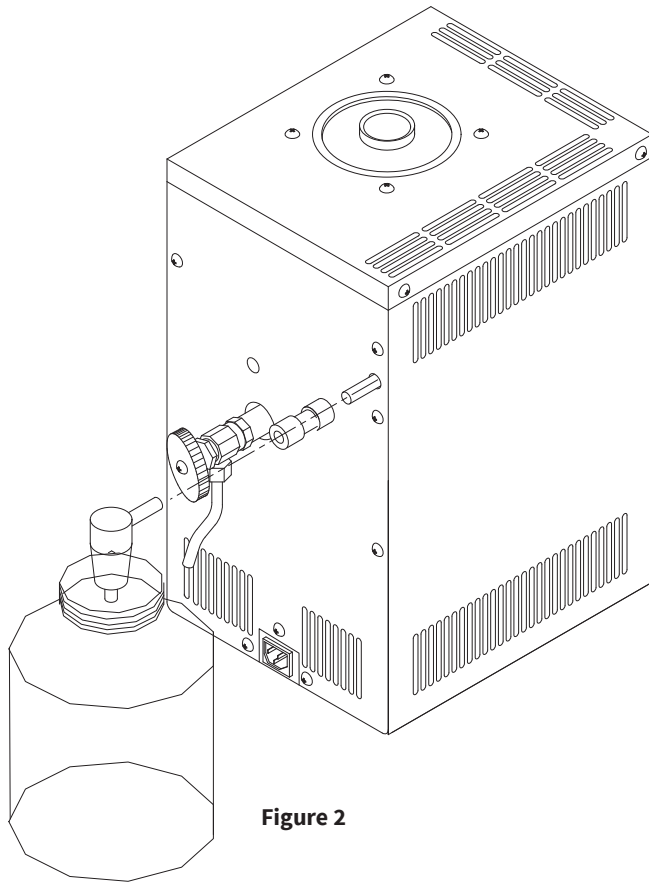

Figure 2
4. Position the post-filter pointing down into the mouth of the distilled water collection jug as shown in Figure 2. The unit is now ready for normal operation.